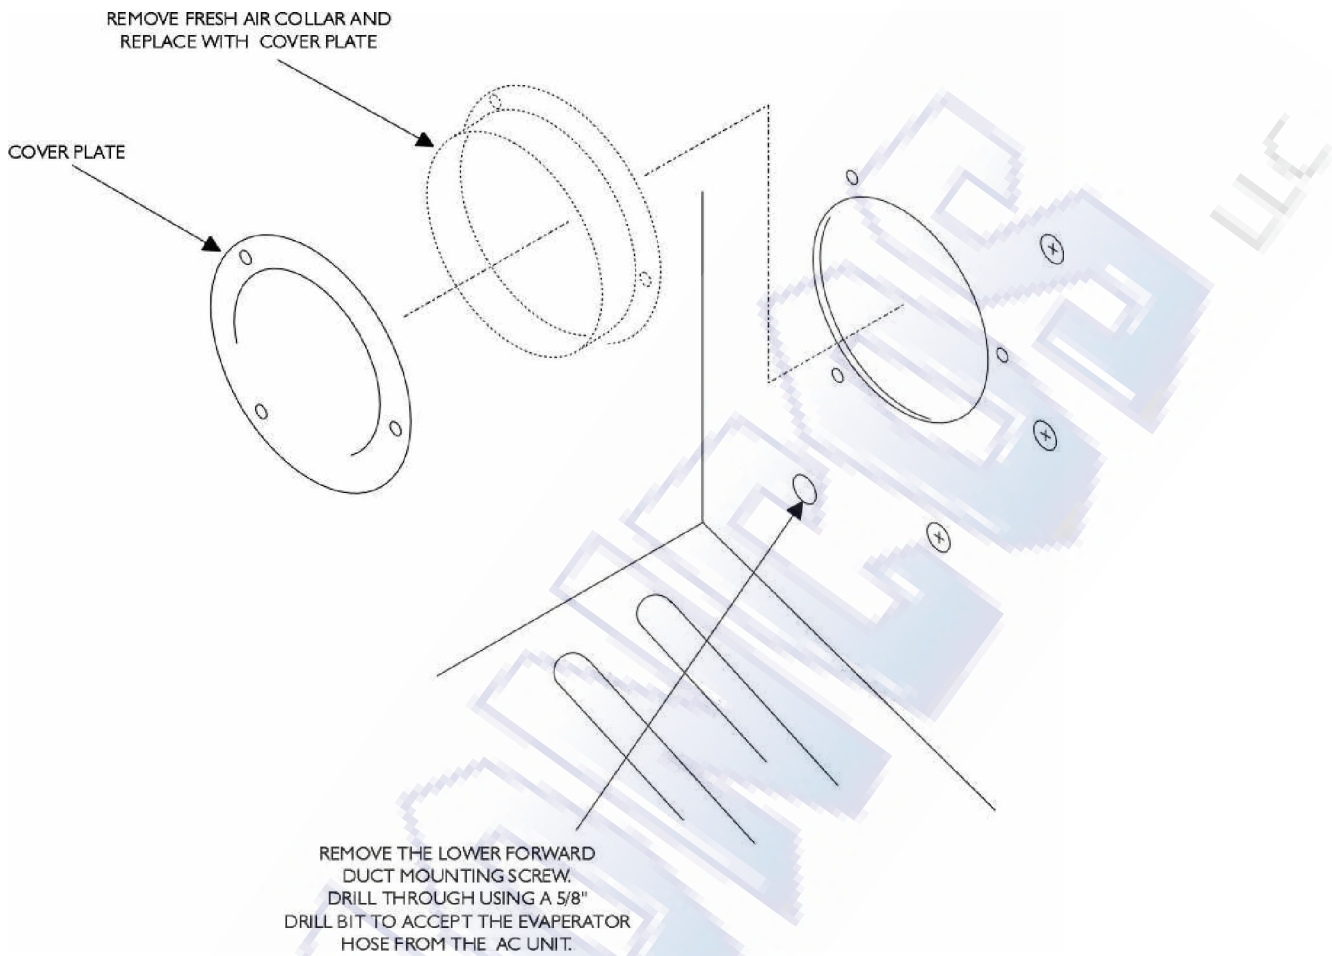

Figure 2. Remove the stock fresh air collar and replace it with the cover plate.
24. Remove the flexible fresh air duct attaching ring and replace with the provided cover plate using the provided attaching hardware. See Figure 2.
25. Drill the lower front fresh air duct mounting hole using a 5/8" drill to accept the ac condensation hose. See Figure 2.
- 39. Attach the ac condensation hose to the ac unit and insert it into the 5/8" hole referencing Figure 2.